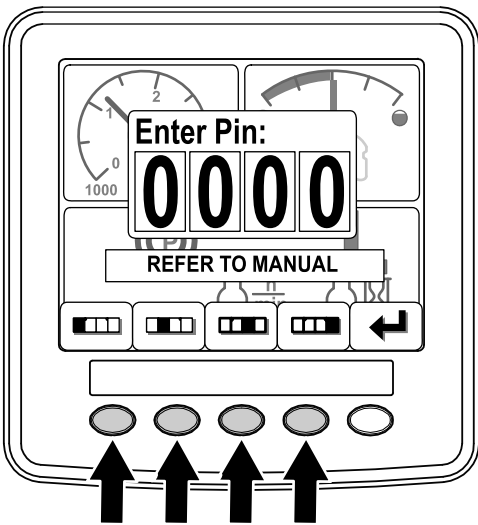

Figure 9
3. Press buttons 1 through 4 to enter your PIN code (Figure 9).